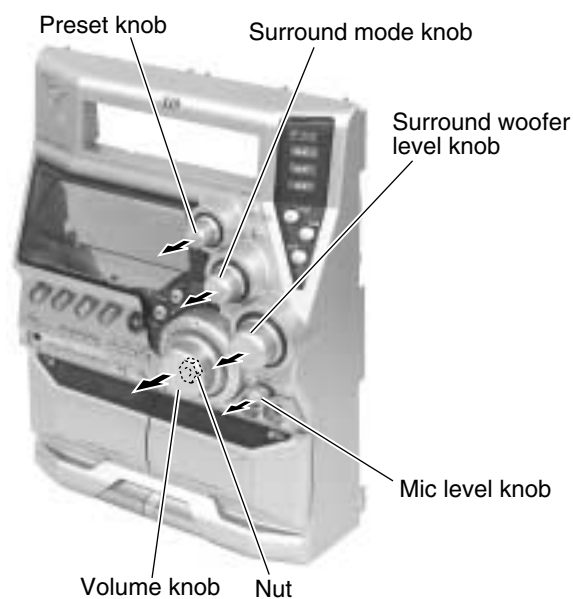

Fig.33
■ Removing the operation switch board (See Fig.33 and 34)